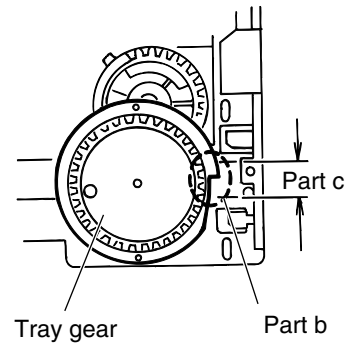

Fig. 4
- Turn the idle gear so that the part **b** of the tray gear is positioned in the part **c** shown in Fig. 4. (Eject position)